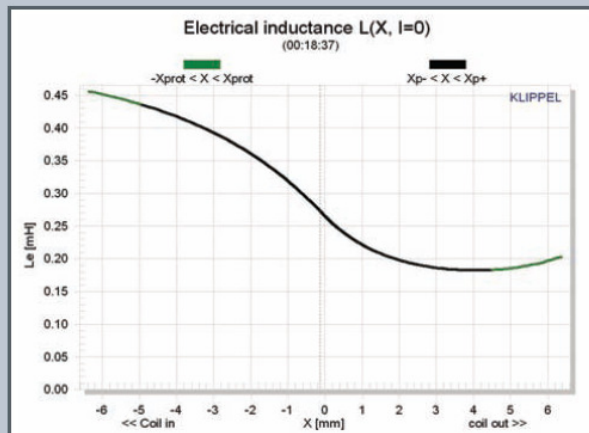

FIGURE 24: Klippel Analyzer  $L(X)$  curve for the Scan-Speak 12W/4524G00.
**Figure 24** gives the inductance curves L(X) for the 12W/4524G00, which shows a typical situation where the inductance increases and the voice coil travels inward covering more of the pole piece. Inductance swing from Xmax forward to Xmax rearward is about 0.21mH inductance. Having Scan-Speak add a copper cap to the pole will decrease the inductive swing, plus you could incorporate the copper cap along with a non-conducting former and get some reasonable subjective improvement, but, of course, you just increased the cost of a cost-effective product!